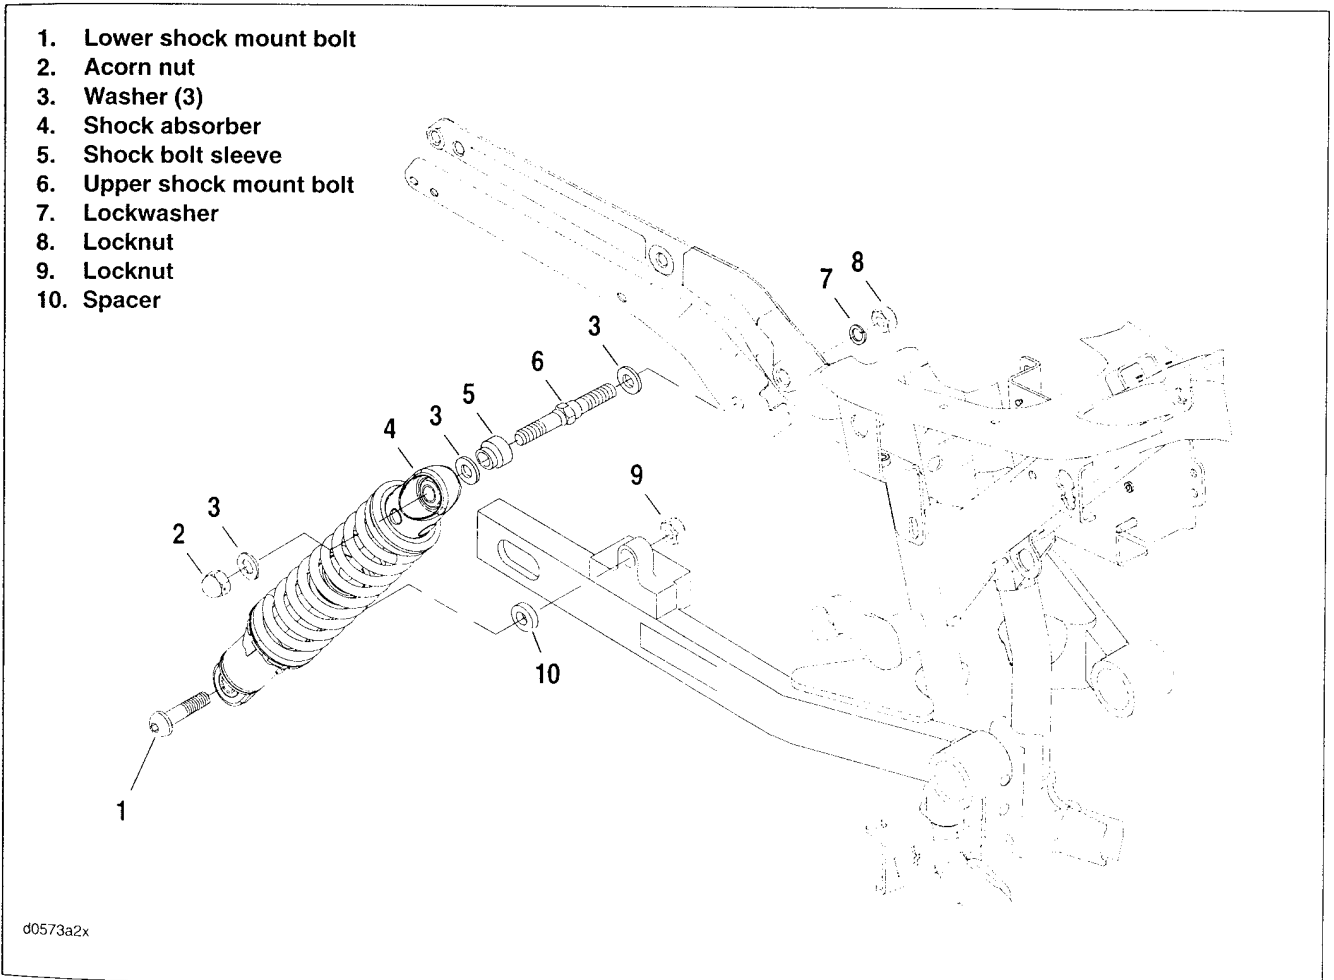

Figure 2-106. Rear Shock Absorber: FXDX, FXDXT
1. See Figure 2-106. Remove lower shock mount from rear fork.
- Remove screw (1), washer (3) and locknut (9).
2. Remove upper shock mount from shock mount bolt (6).
- a. Remove acorn nut (2) and washers (3).
- b. Remove shock (4), and shock bolt sleeve (5).
2. See Figure 2-106. Attach lower shock mount to rear fork.
- a. Apply two to three drops of LOCTITE THREAD-LOCKER 243 (blue) to threads of bolt (1).
- b. Install bolt (1), spacer (10), and locknut (9).
3. Attach upper shock mount to shock mount bolt (6).
- a. Apply two to three drops of LOCTITE THREAD-LOCKER 243 (blue) to threads of shock mount bolt (6).
- b. Install shock bolt sleeve (5), shock (4), washers (3), and acorn nut (2).